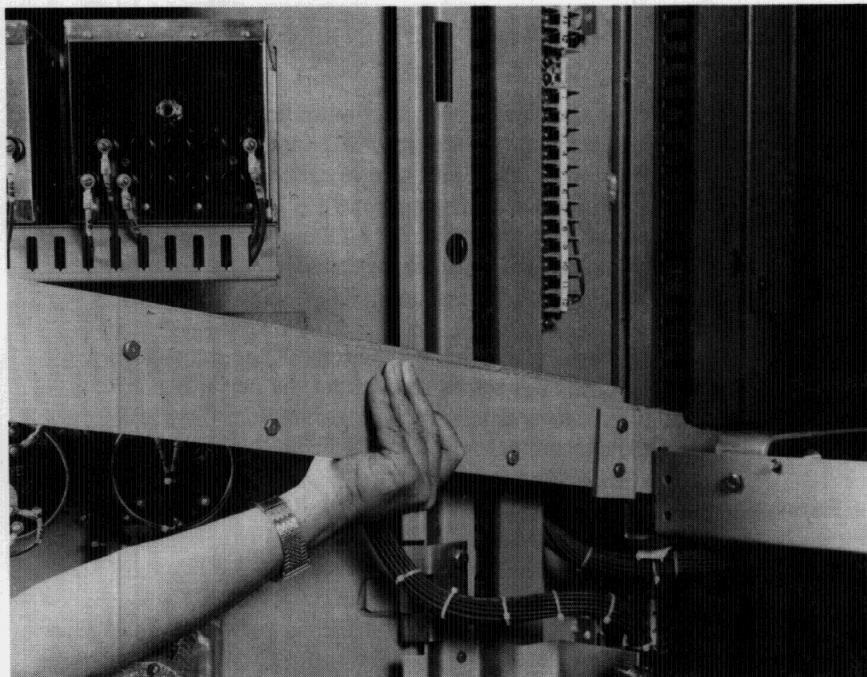

FIG. 3
12. Insert draw-out extension rails per fig. 3 to install breakers.
B. Insert extension rails into each side of the auxiliary compartment per fig. 3. Turn the two drawer handles and pull the drawer out of the compartment. (Rollers on the sides of the drawers ride on the extension rails.)